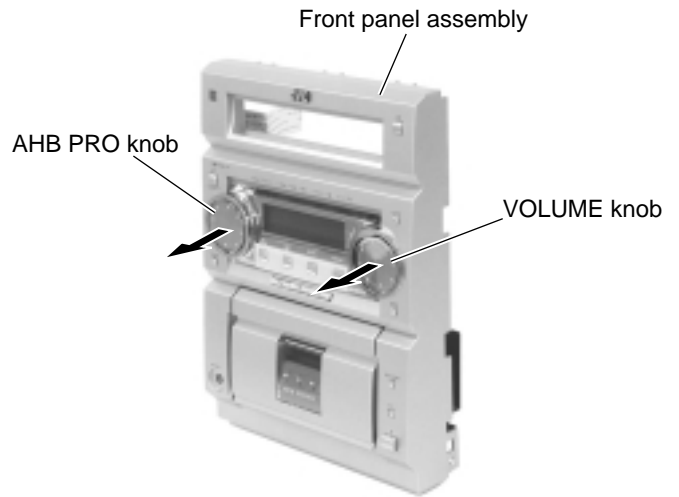

Fig.26
**■Removing the display board / switch board (See Fig.26 to 28)**